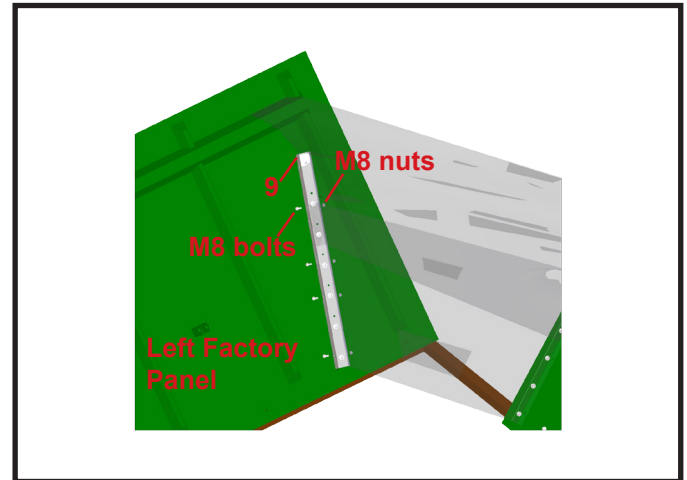

Figure 9
Attach the Tip-Up Bolt Plate (9) to the left factory panel using the M8 bolts and nuts from Step 6. Corners will be very taut, some force may be required. See Figure 9.